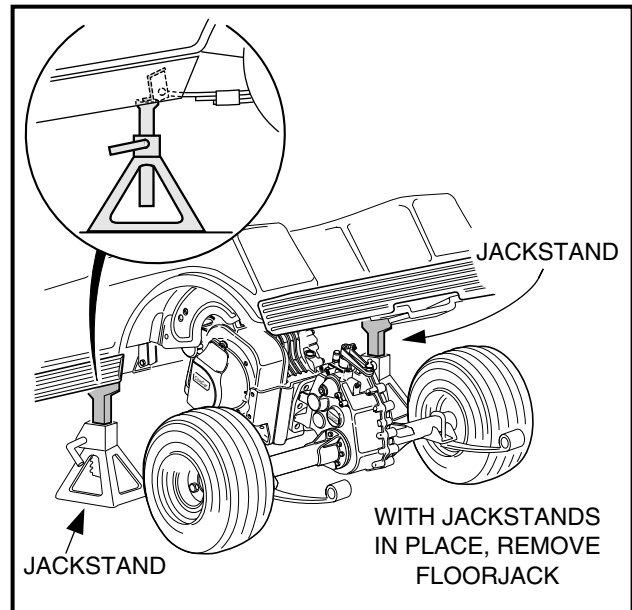

FIGURE 10-26
9. Position jackstands, adjusted to support the vehicle at this height, under the frame cross-member between the leaf-spring mounts and side stringers, just forward of each rear wheel. Lower the floorjack to allow the jackstands to support the vehicle (**Figure 10-26**).